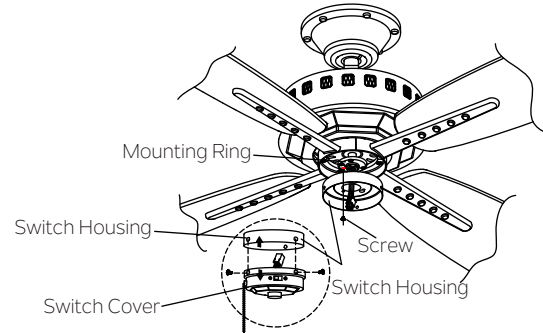

Fig.18
Step 1. Remove the three screws and separate the switch housing from the switch cover (Fig. 18)
Step 2. Remove the screw on the mounting ring and loosen the other two (do not remove). Let the 9-pin connector from motor body through the middle hole of switch housing. Align the two slot holes on the switch housing over the 2 screws previously loosened from the mounting ring. Turn the switch housing until it locks in place at the narrow end of the key holes. Securely tighten all three screws. (Fig. 18)